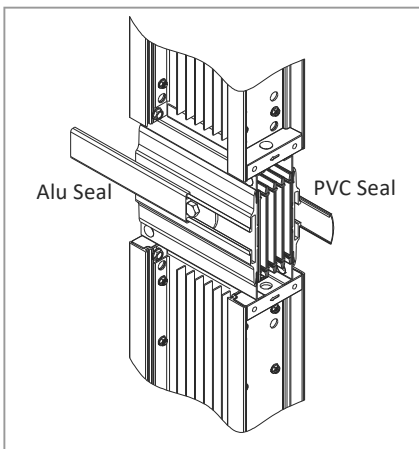

Figure 11.1
1. Joint two feeder together, and install alu seal and pvc seal as shown in Figure 11.1